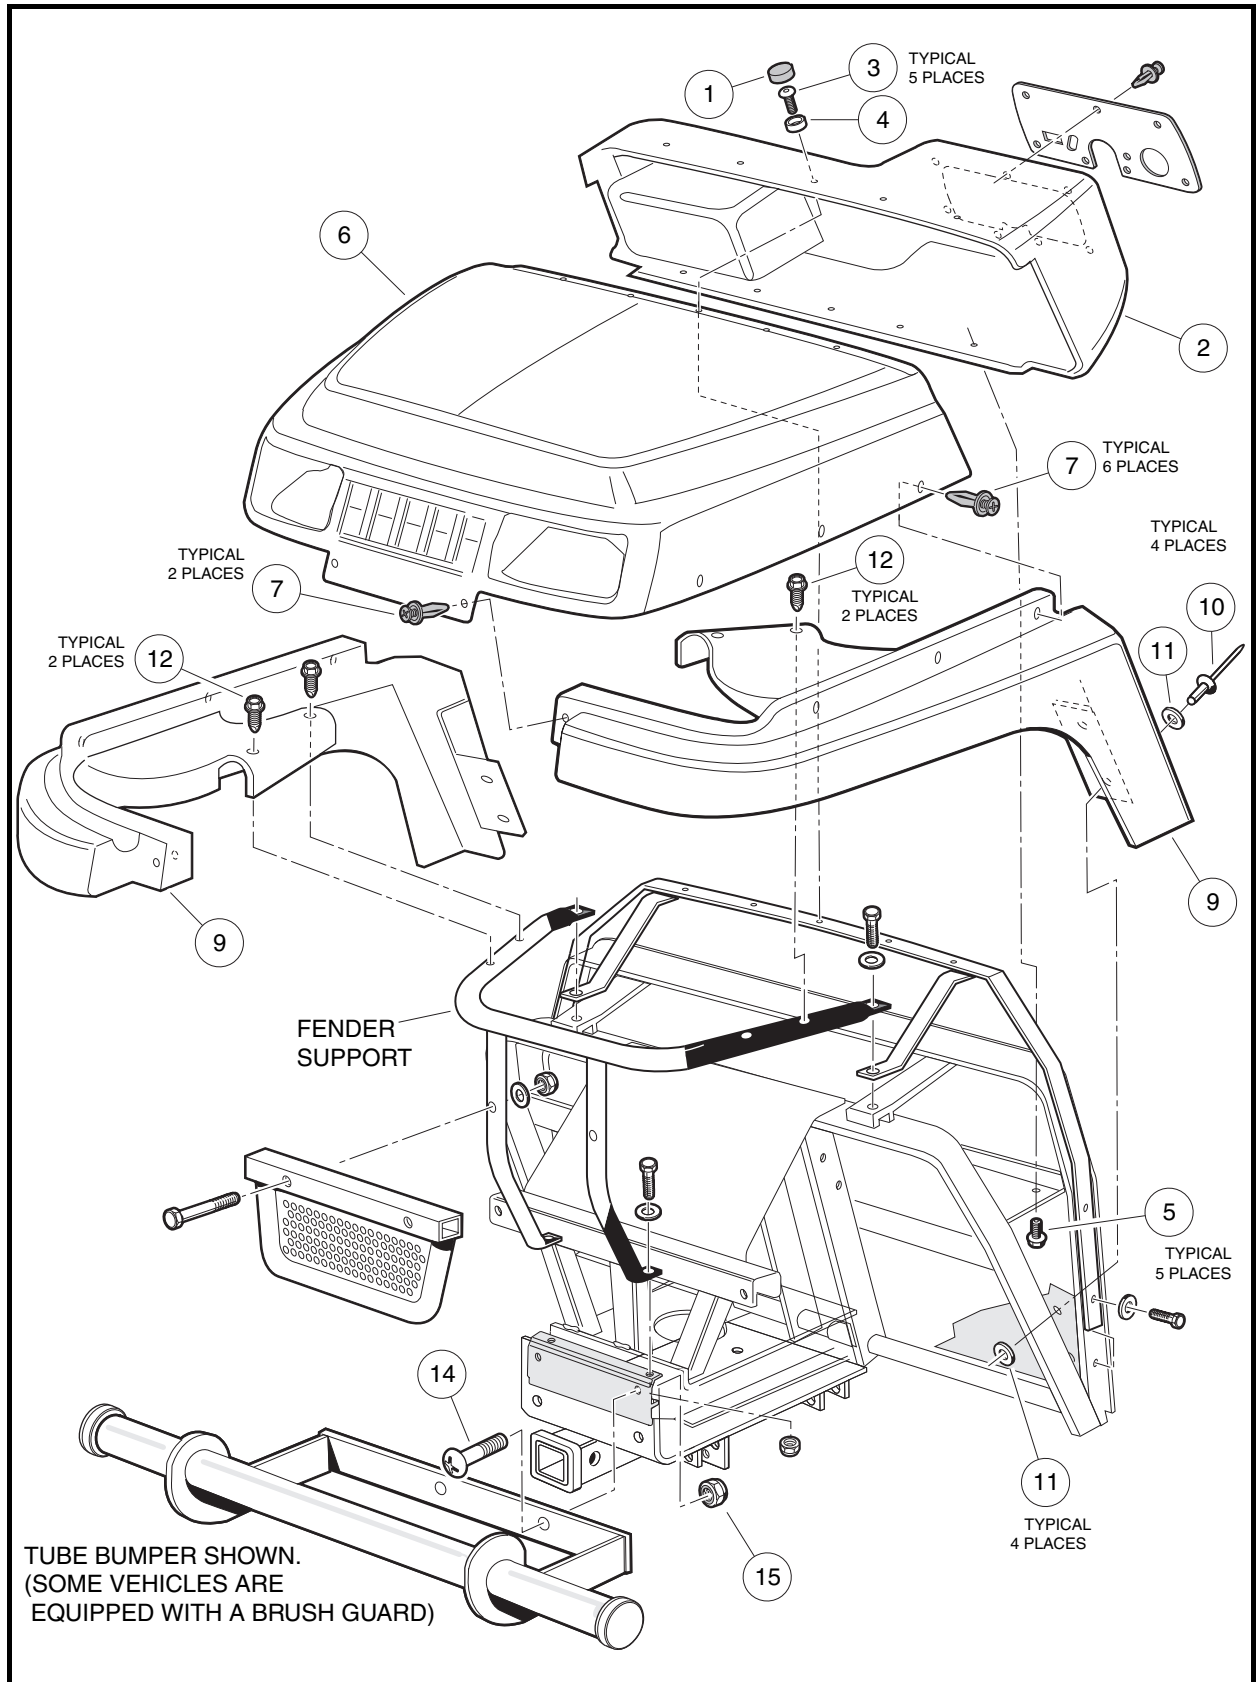

Figure 4-2 Front Body Assembly
Remove the truss-head screws (14) and nuts (15) that secure the tube bumper or brush guard to the vehicle frame (**Figure 4-2, Page 4-6**).
Installation is the reverse of removal. Tighten the nuts (15) to 15 ft-lb (20.3 N·m) (**Figure 4-2, Page 4-6**).
5. Remove five caps (1) from top of dashboard (2) (**Figure 4-2, Page 4-6**).
6. Remove screws (3) and special plastic washers (4) from top of dashboard (2) using a Torx #T-30 driver.
7. Remove five screws (5) from underside of dashboard and pull dashboard away from front body (6).
2. Tighten screws (5) to 11 in-lb (1.2 N·m) (**Figure 4-2, Page 4-6**).
3. Tighten Torx-head screws (3) with plastic washers (4) to 45 in-lb (5.1 N·m).
4. Install five caps (1).
1. Remove five caps (1) from top of dashboard (2) (**Figure 4-2, Page 4-6**).
2. Use a Torx #T-30 driver to remove the Torx-head screws (3) and washers (4) from top of front body (6).
3. Use a 5/16 nut driver to remove five screws (5) from underside of dashboard (2) and gently slide dashboard away from front body (6).
4. Use a phillips head screwdriver to remove the six Tuflok fasteners (7) from sides and two (7) from front of front body (6).
6. Lift the back edge of the body up and pull forward to remove from vehicle (**Figure 4-2, Page 4-6**).
1. Remove front body (6) (**Figure 4-2, Page 4-6**). See **Front Body Removal on page 4-5**.
2. Pull back floor mat to access rivets securing front fender (9) to frame. Drill out two 3/16 x 5/8 pop rivets (10) and remove two washers (11).
3. Use a 3/8 hex-head socket to remove two screws (12) from fender frame support and remove fender.
1. Reverse the fender removal process (**Figure 4-2, Page 4-6**).
2. Tighten screws (12) to 50 in-lb (5.7 N·m).
3. Pop rivet fender to frame using two 3/16 x 5/8 pop rivets (10) and two 3/16 rivet washers (11).
1. Reverse the front body (6) removal process (**Figure 4-2, Page 4-6**).
2. Secure front body (6) to dashboard (2) with screws (3) and plastic washers (4) and tighten to 45 in-lb (5.1 N·m).
3. Install five caps (1).
4. Secure front body (6) to fenders (9) with fasteners (7) and push the heads in until they snap into place.